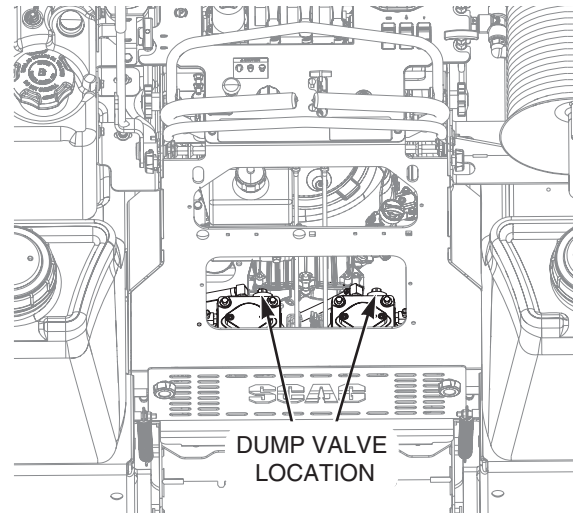

Figure 4-3. Dump Valve Controls
10. **Dump Valve Controls (Figure 4-3).** Located on the hydraulic pumps, used to "free-wheel" the machine. Rotating clockwise until they stop, allows the unit to move under hydraulic power. The levers must be in this position and torqued to 7-10 lb-ft during operation of the machine. Rotating counter-clockwise allows the machine to be moved by hand (free-wheeling). See Figure 4-3.